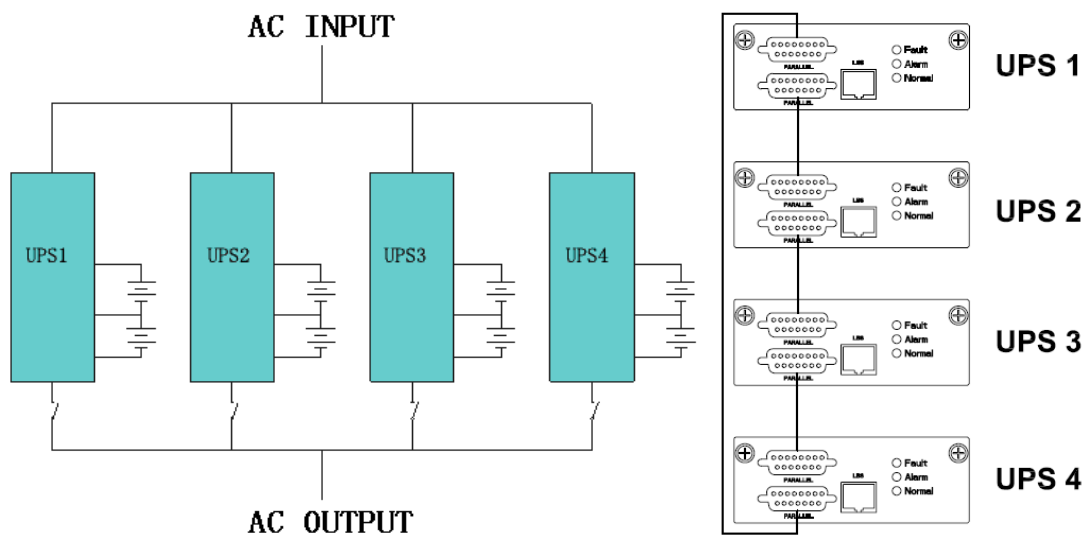

Figure 2: Parallel System Power/Control Connections
- Confirm that the parallel control cables are connected in a ring configuration between all UPS units in the Parallel mode system (control connection in Figure 2).